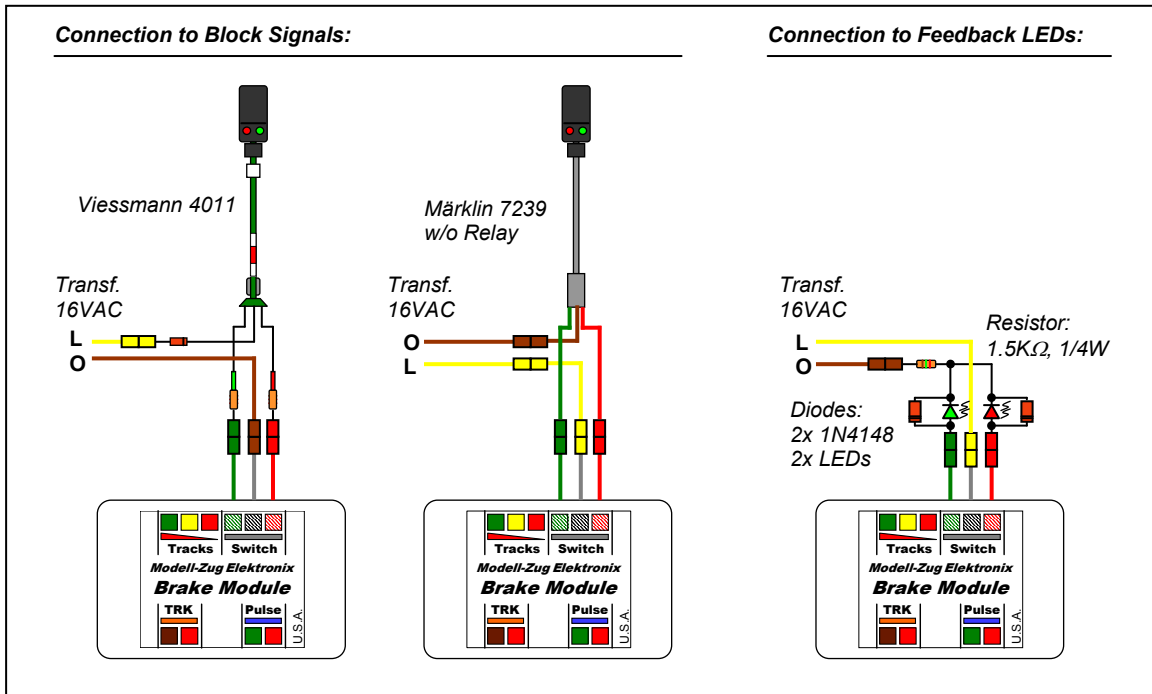

Figure 4. Auxillary Switch Connection Examples
3. The Auxillary Switch may be used in a variety of applications for controlling additional accessories, logic functions, or feedback. Figure 4 below demonstrates some practical applications of the auxillary switch contacts. (Note: When connecting LEDs for control panel feedback, it is recommended to connect diodes such as the 1N4148 across each LED in anti-parallel as shown in Figure 4 to protect the LEDs against the reverse AC voltage swing.)